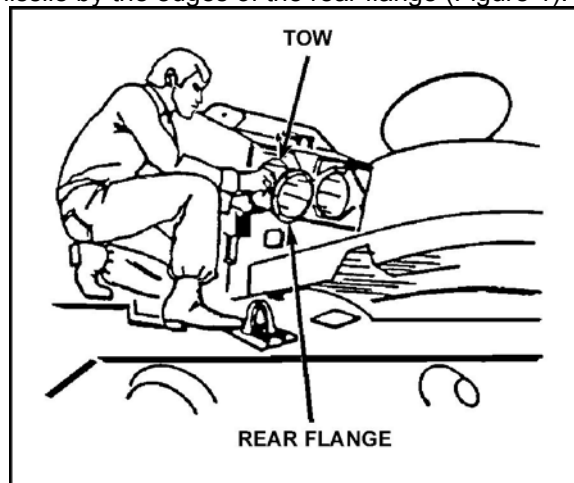

Figure 1. Rear flange of missile.
- a. Start pulling the missile by the edges of the rear flange (Figure 1).